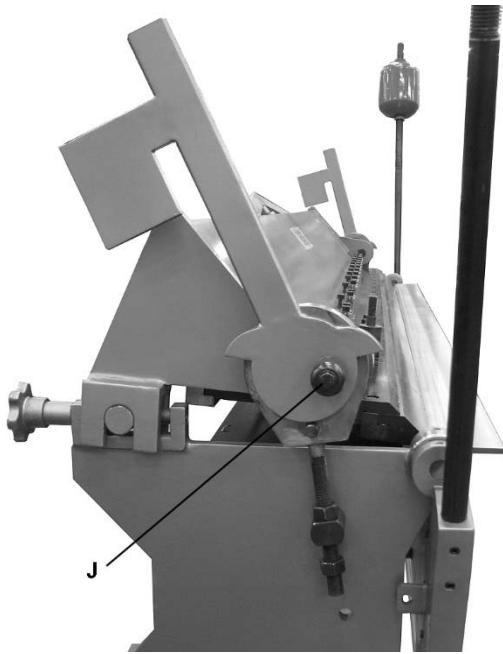
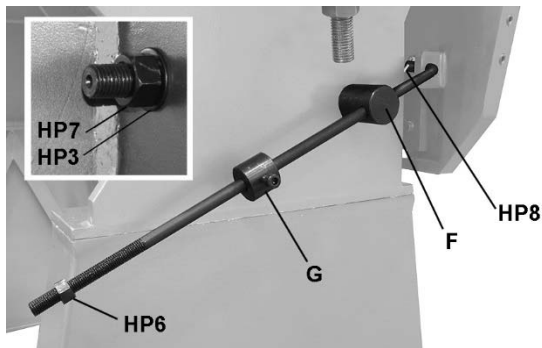

Figure 3
Figure 4
6. Remove screw, spring cover and spring (J, Figure 3). Slide handle outward just enough to clear stop pin, and rotate handle to a higher position, as shown. Reinstall spring, spring cover and screw, and tighten screw until there is no “play” in the handle.
7. Install counterweight assemblies to left and right hinges and tighten set screws. See Figure 3.
8. Install handle (B) and center brace (C) to front of apron (HP1, HP4,HP5).
9. Install stop rod assembly on left side of brake, through weldment on apron, as shown in Figure 4. Secure stop rod pin (F) with flat washer and hex nut (HP7,HP3). Install cotter pin (HP8) at end of stop rod, and bend with pliers to secure.
Adjust stop collar on stop rod (Figure 4) to limit apron swing.